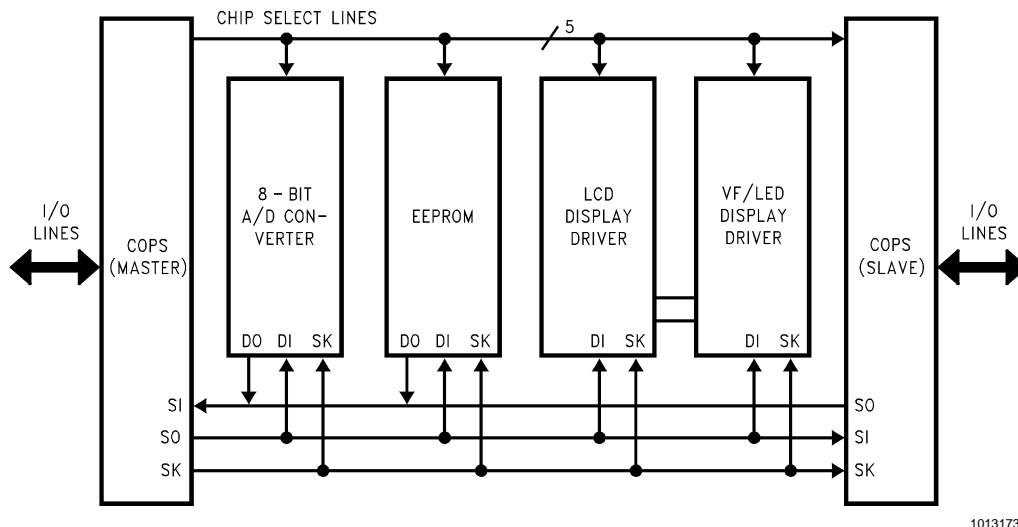

FIGURE 28. MICROWIRE/PLUS Application
MICROWIRE/PLUS is a serial SPI compatible synchronous communications interface. The MICROWIRE/PLUS capability enables the device to interface with MICROWIRE/PLUS or SPI peripherals (i.e. A/D converters, display drivers, EEPROMs etc.) and with other microcontrollers which support the MICROWIRE/PLUS or SPI interface. It consists of an 8-bit serial shift register (SIO) with serial data input (SI), serial data output (SO) and serial shift clock (SK). Figure 28 shows a block diagram of the MICROWIRE/PLUS logic.
enabled, an interrupt is generated when eight data bits have been shifted. The device may enter the MICROWIRE/PLUS mode either as a Master or as a Slave. Figure 28 shows how two microcontroller devices and several peripherals may be interconnected using the MICROWIRE/PLUS arrangements.